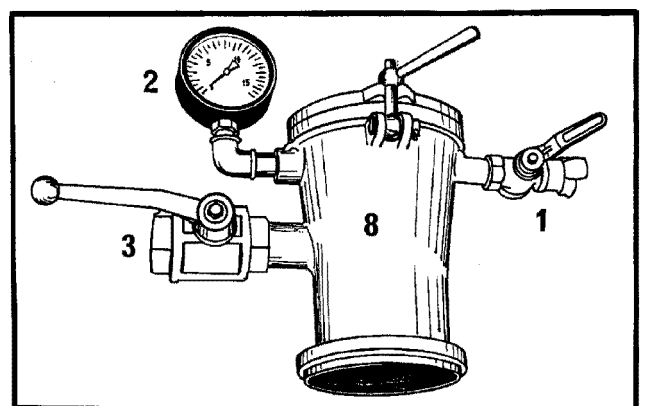

Fig.: 15
7. The cleaning head must be equipped with a functioning pressure gauge 2 and a large-dimensioned blow valve 3 (Fig.: 15).
10. Only work on unpressurised pipelines. Open blow valve 3 (Fig.: 15). Concrete emerging under pressure can injure persons.